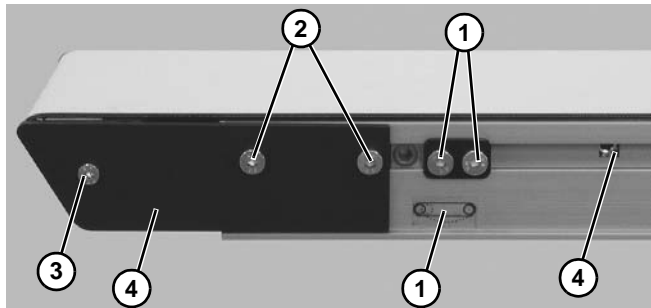

Figure 68
1. On both sides of conveyor, use a 4 mm hex-key wrench to loosen cam fastening screws (**Figure 68, item 1**) and slide cam assemblies toward the center of the conveyor.
2. On both sides of conveyor, use a 4 mm hex-key wrench to loosen head plate fastening screws (**Figure 68, item 2**) to remove belt tension. Then remove belt from end of conveyor.
3. On one side of conveyor, use a 3 mm and 4 mm hex-key wrench to remove head plate fastening screws (**Figure 68, item 3**) and (**Figure 68, item 2**) and remove head plate (**Figure 68, item 4**).
5. After replacing rollers, re-install head plate (**Figure 68, item 4**). Use a 3 mm hex-key wrench to tighten one (1) fastening screw (**Figure 68, item 3**) to 30 in-lb (3.4 Nm). Leave two (2) fastening screws (**Figure 68, item 2**) loose for belt tensioning.